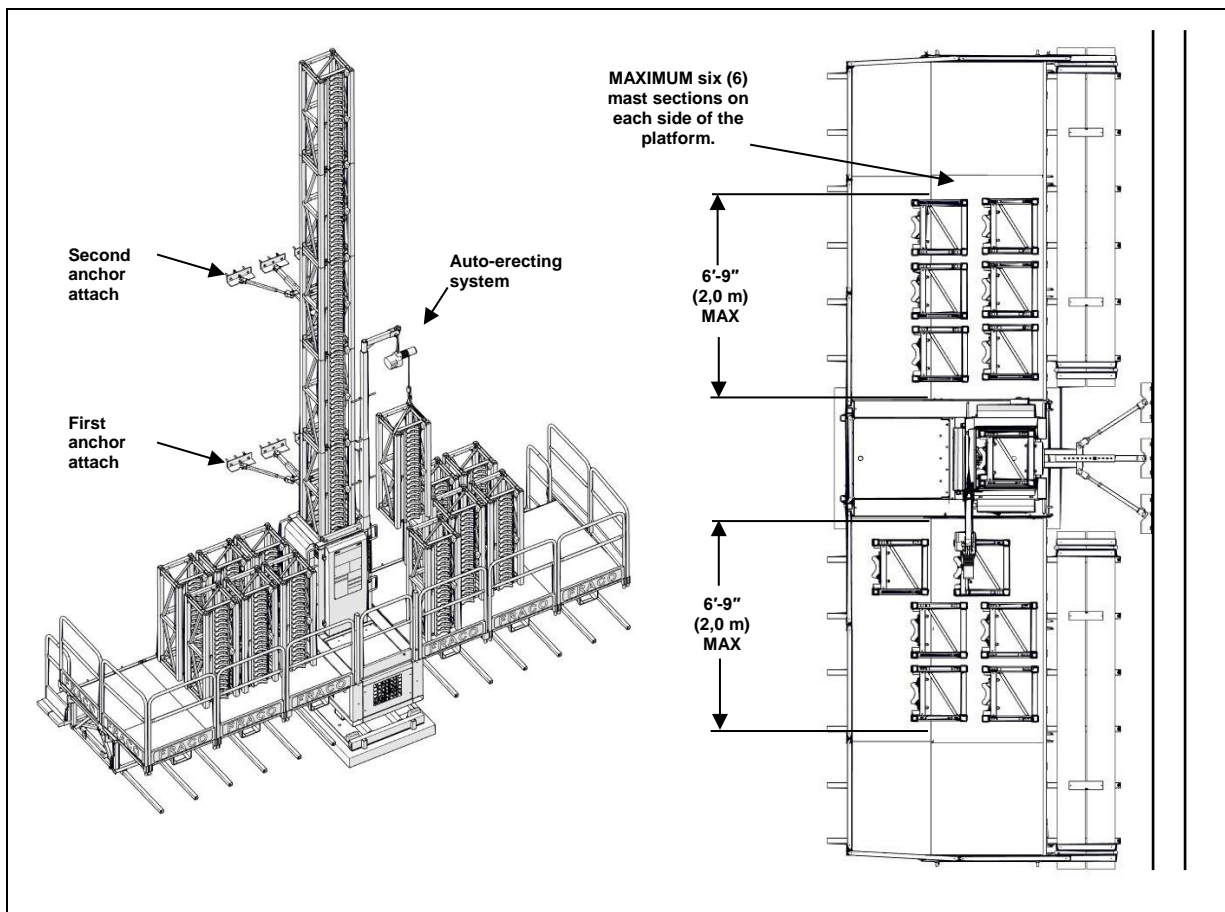

Figure 75 - Installation of masts and anchors on a ground base, self-erecting (optional)
- If you are using a self-erecting system (**optional - self-erecting system**), go to **Step 4**, (See Figure 75).
- Then install the self-erecting system and load up to six (6) mast sections on each side of the platform (twelve [12] sections per platform). Attention, it is important to always equally load the platform on both sides as shown in the **Figure 75**.
- Load up to **MAXIMUM** six (6) mast sections on each side of the platform. Attention, it is important to always equally load the platform on both sides.
- Unbolt and remove the mast sections using the self-erecting system following the same instructions as for the installation (see Figure 75). Load equally on each side of the platform up to **MAXIMUM** six (6) mast sections at a time (twelve [12] sections per platform **MAXIMUM**).